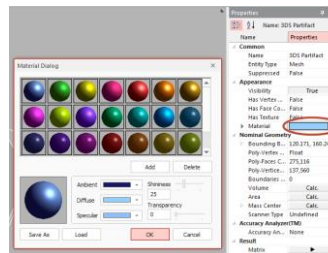

Figure 35
- Select the **blue** bar next to **Material** in the **Properties** dock. Then select the three dots on the right (**Figure 35**).